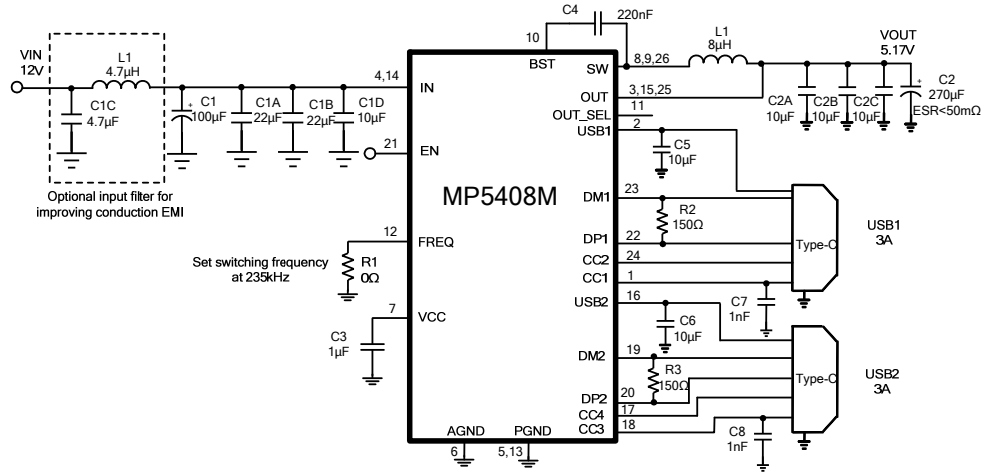

Figure 13: Dual USB Type-C 5V/3A DFP Ports (11)
10) The recommended layout is based on the Typical Application Circuits in Figure 13 through Figure 15.